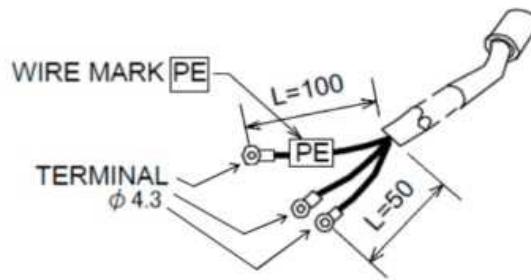

Fig. 5-7 Power Cable
- (1) Connect the power cable terminal to the terminal board of user's power distribution board for equipment. The wire with [PE] mark is for earth use and other remaining two wires are for single phase AC power (Refer to Fig. 5-7, Table 5-1).